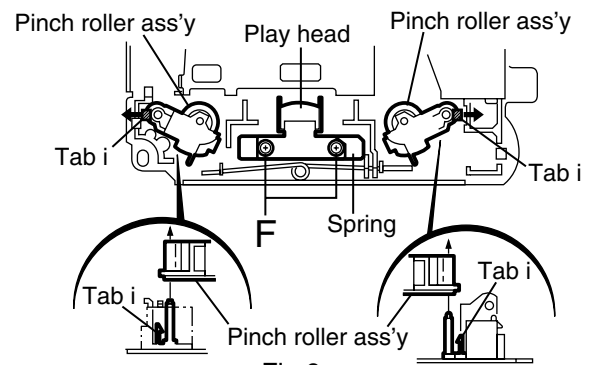

Fig.9
■ Removing the play head (See Fig.9)
■ Removing the pinch roller ass'y (See Fig.9)